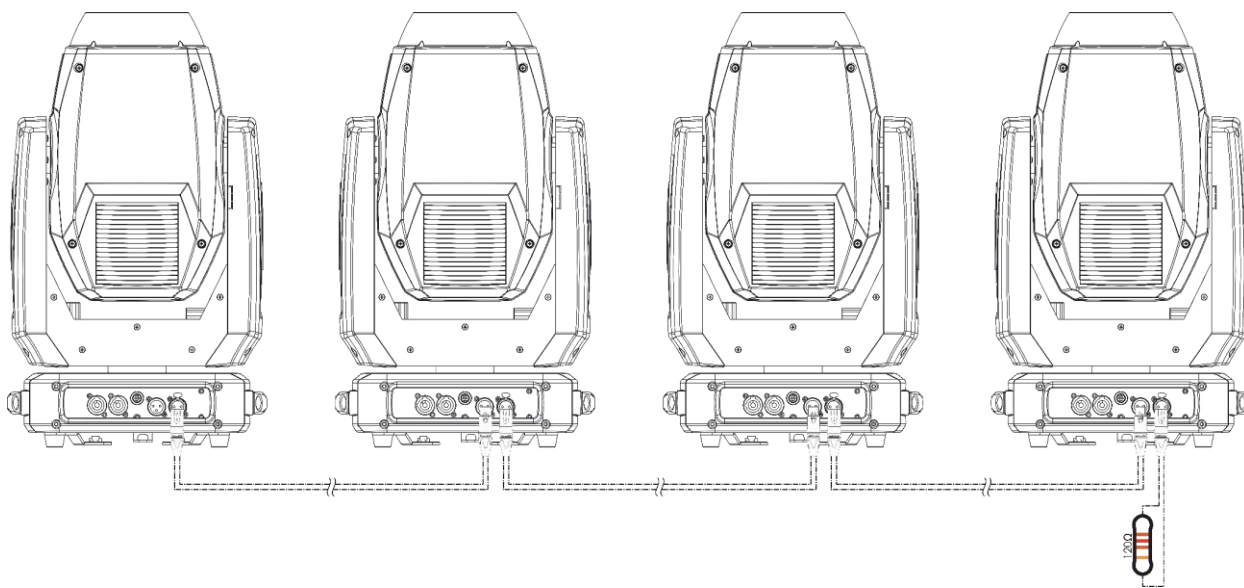

Fig. 09
- 02) Repeat step 1 to connect all devices as shown in Fig. 09. The first connected device will be automatically recognized as the master device.